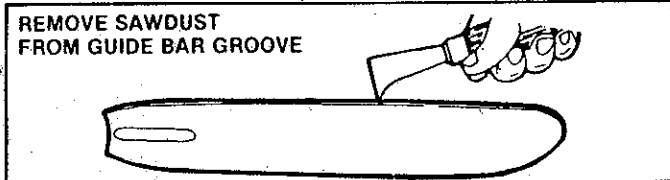

Figure 38
- Remove sawdust from the guide bar groove periodically with a putty knife or a wire. Figure 38.